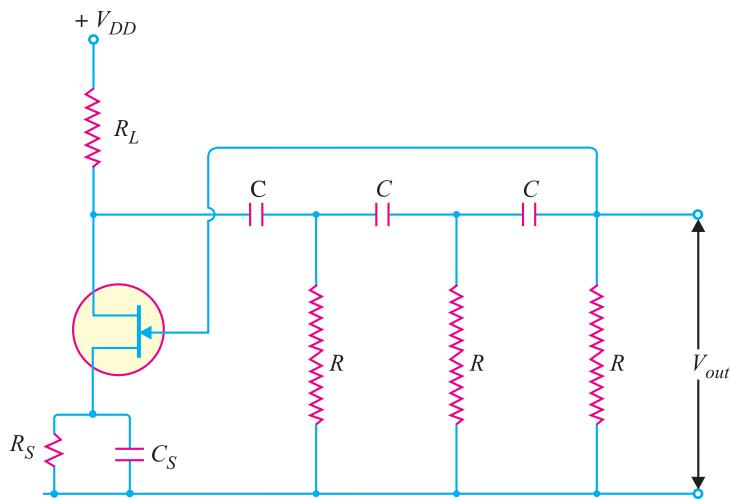

Fig. 19.42
**(ii) Phase-shift oscillators.** The oscillators discussed in chapter 14 will also work with *JFETs*. However, the high input impedance of *JFET* is especially valuable in phase-shift oscillators to minimise the loading effect. Fig. 19.42 shows the phase-shift oscillator using *n*-channel *JFET*.